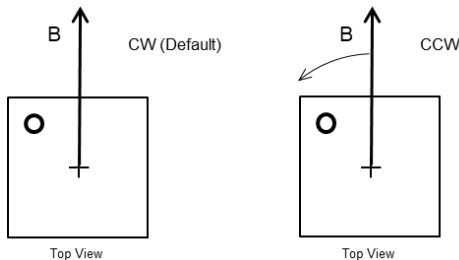

Figure 22: Positive Rotation Direction of the Magnetic Field
By default, when looking at the top of the package, the angle increases when the magnetic field rotates clockwise (CW) (see Figure 22).